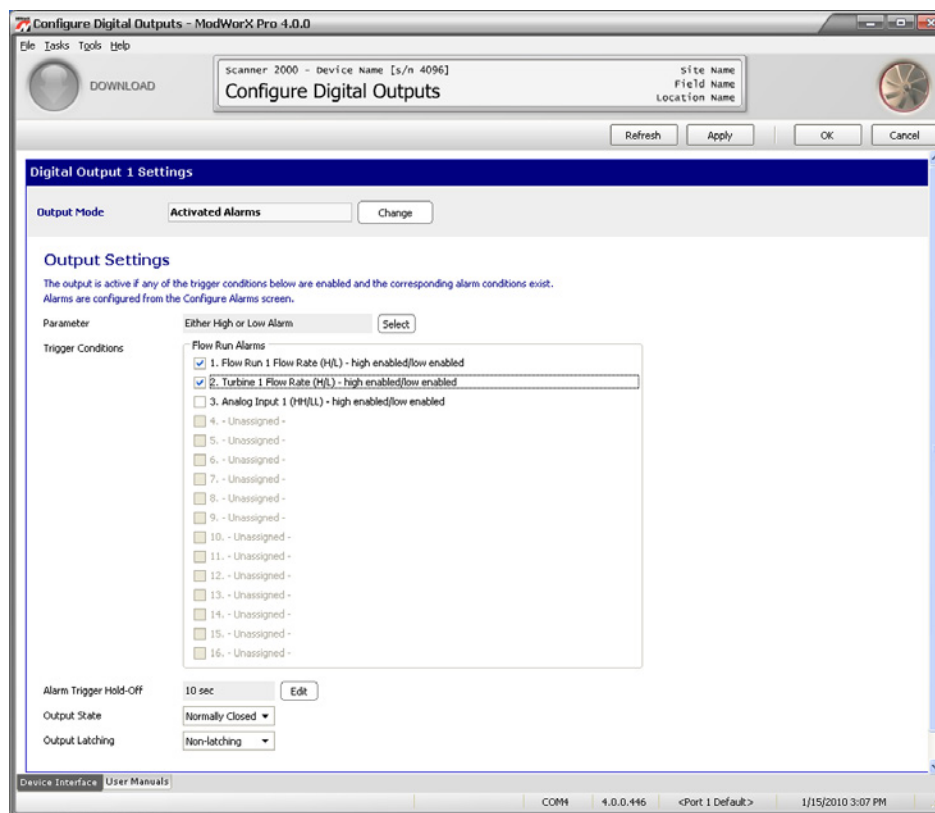

Figure 7.11
- Click **OK** to save the setting and return to the Configure Digital Outputs screen (Figure 7.11).
- If one of the top three selections was chosen in step 3, only parameters that are configured as alarms will appear in the Trigger Conditions field (Figure 7.11, page 96). To add a parameter, configure a new alarm in the Configure Alarms menu. See Archive Parameter Setup, page 47, for more details.